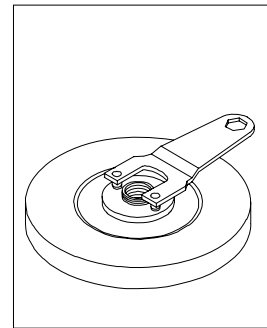

Fig6.11.4
- (3) Use the Y type spanner to lock the grinding wheel hub lock nut tightly (clockwise-loosen counter-clockwise-lock) as drawing FIG 6.11.4